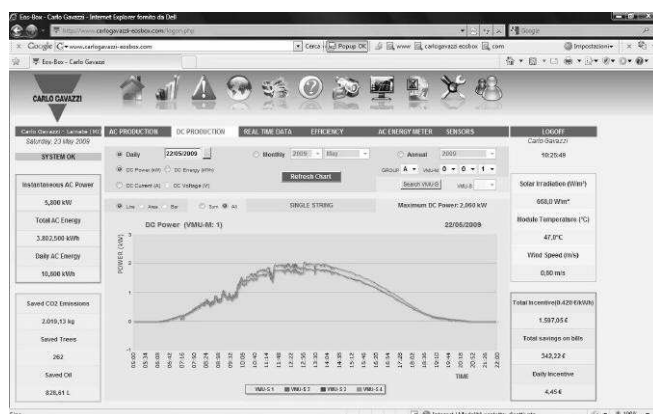

Fig. 6
- 2** DC production and then the following selections (Fig.6):